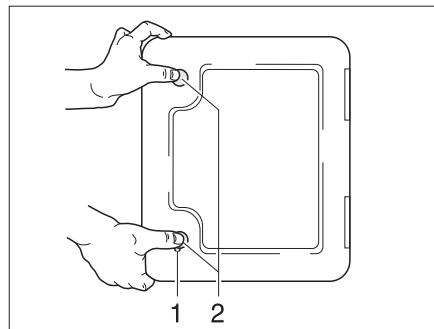

Fig. 36 Flap for toilet cassette
- Insert the key into the locking cylinder of the push-button lock (Fig. 36,1) and turn a quarter turn.
- Press both push-button locks (Fig. 36,2) simultaneously with your thumb and open the flap for the toilet cassette.
- Insert the key into the locking cylinder (Fig. 36,1) and turn a quarter turn.